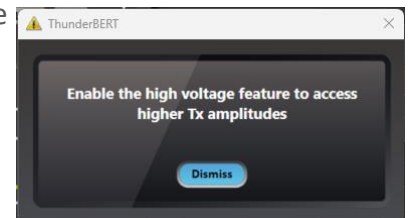

Figure 21: High Amplitude Warning
- **Customize the FFE taps.** Scaling, FFE taps, and Inner and Outer Eye can be controlled in this tab. If the amplitude is higher than 1V a warning message will be shown to avoid any damage on the Rx Side (Figure 21). This warning message is specifically designed to appear to help prevent potential damage to the receiver side (RX).